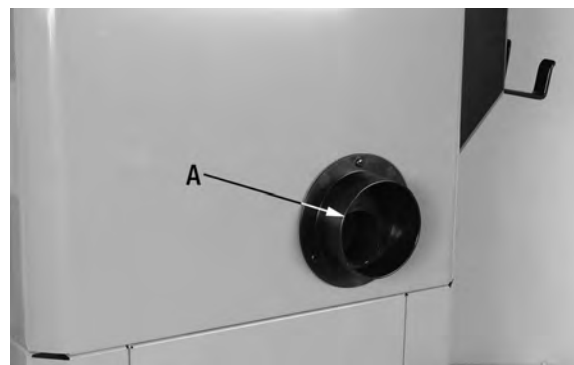

FIGURE 39
This Table Saw comes with a 4" dust chute (A) Fig.39 at the rear of the cabinet, allowing for the connection to a dust collector.